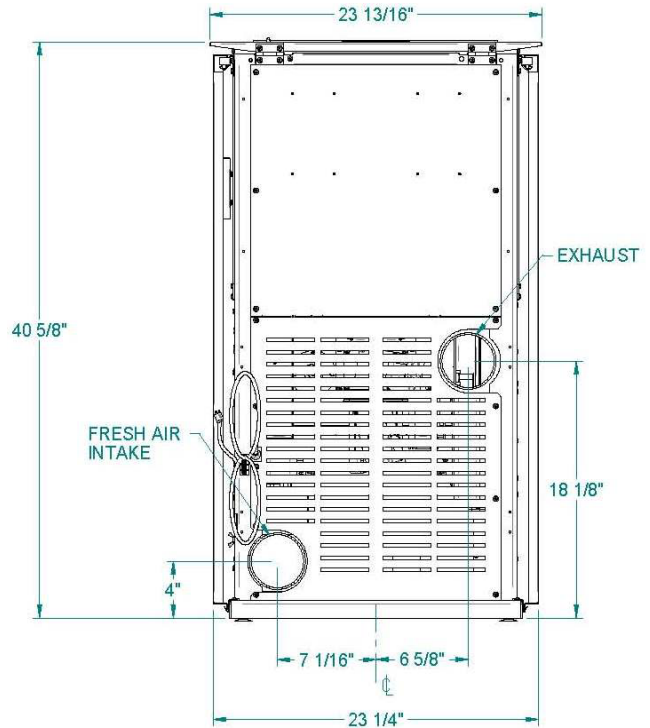
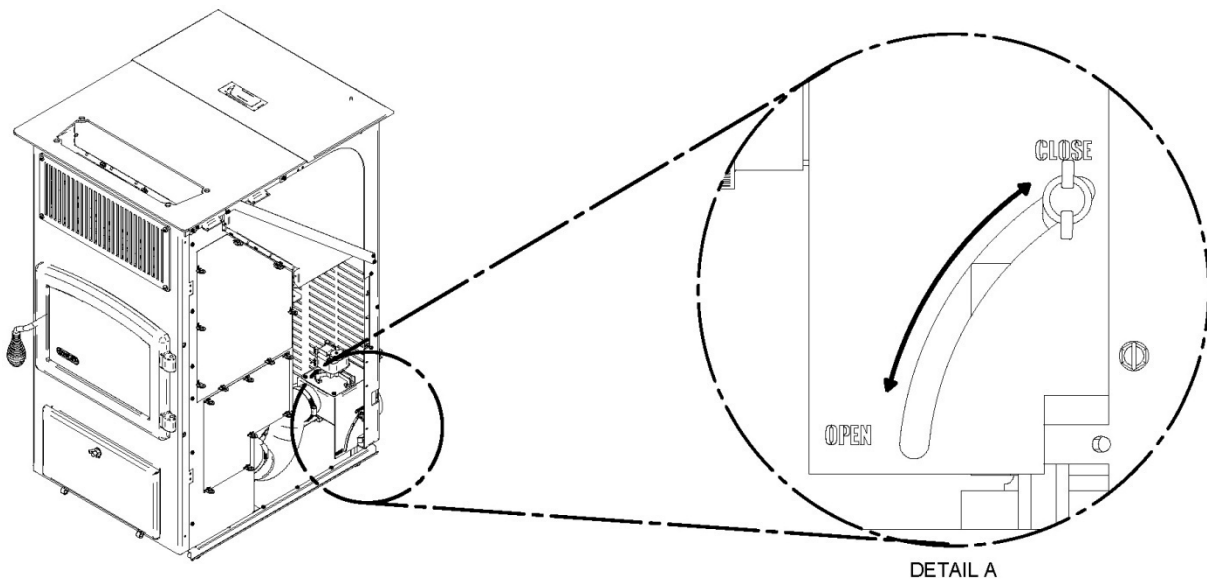

FIGURE 5
FIGURE 6.
It is mandatory to connect this stove to an outside combustion air source to reduce the risk of hopper burn back caused by negative pressure. A insulated 4" inside diameter metallic pipe, either flexible or rigid, must be attached to the inlet at the stove's rear (refer to figures 5, 6 & 7). A rodent guard (minimum 1/4" wire mesh) must be used at the terminus (refer to figure 6). All connections must be secured and airtight by either using the appropriately sized hose clamp and/or UL-181-AP foil tape. Also make sure that the fresh air damper is open while the stove is running. The fresh air intake damper is located at the back of the stove right hand side (refer to figure 6.).
2. Locate position of hole in wall; directly behind stove exhaust vent (refer to figure 5).